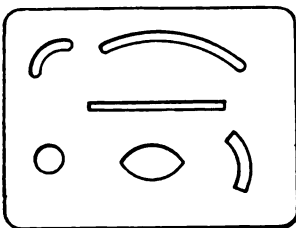

Fig. 8
8. *Erasing Shields.*—Erasing shields are made of paper, cardboard, celluloid or metal and have slits or holes of various shapes and sizes cut out of them. Such a shield is shown in Fig. 8. When removing an ink spot or a small portion of an inked line, the shield is placed over the spot or line so that only the part to be erased is exposed.